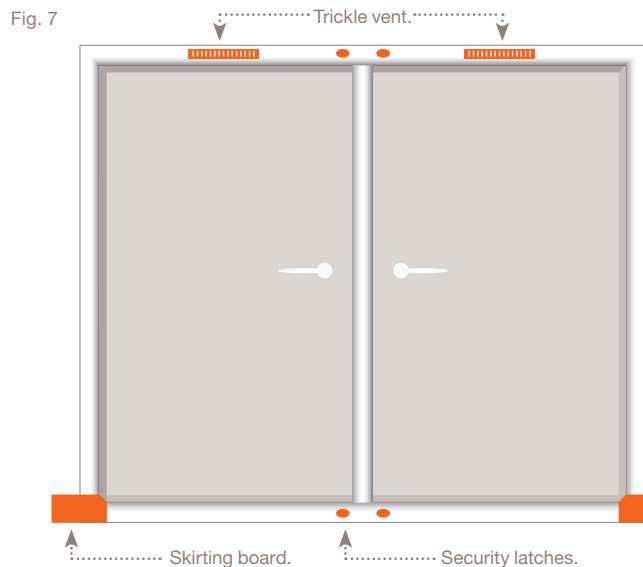

Fig. 7
- Ensure that your door frame is free of any obstructions such as trickle vents (Fig. 7) so that you have a clean area to fix the fly screen to.